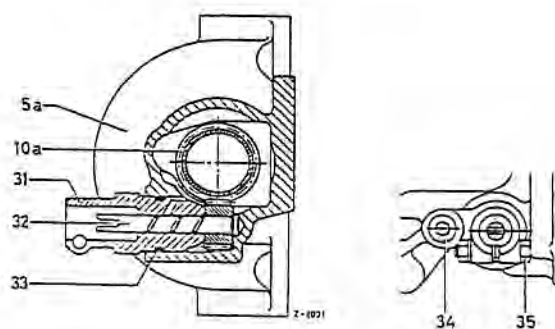

Fig. 06-1/2
For subsequent installation in the 220 SEb sedan model, use adaptor (6) and connector (3) (Fig. 06-1/1).